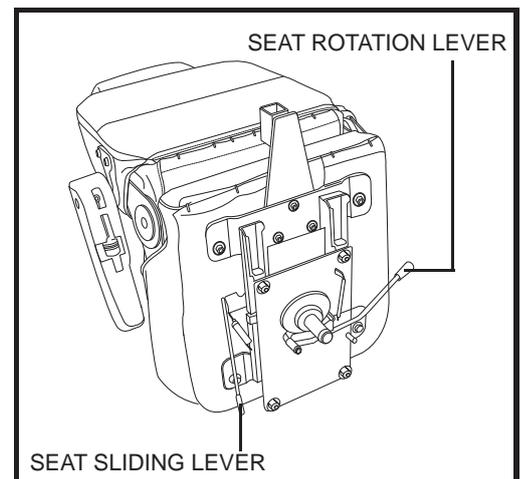

Figure 16. Seat Position Adjustments
1. Push forward on the seat rotation lever to disengage the seat. See **figure 16**.
1. Move the seat sliding lever located at the lower left side of the seat outward. See **figure 16**.